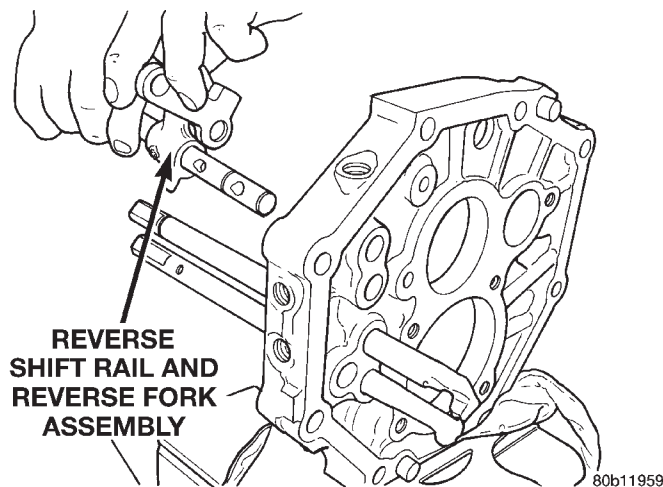

Fig. 81 Install Reverse Shift Rail
- (9) Install reverse shift rail into intermediate plate and position reverse arm bracket to intermediate plate (Fig. 81).